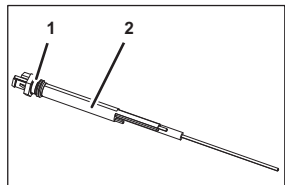

Figure 106
4. Check the seal (Figure 106/1) of the level electrode (Figure 106/2) for damage.
Replace any damaged seals (Figure 106/1).